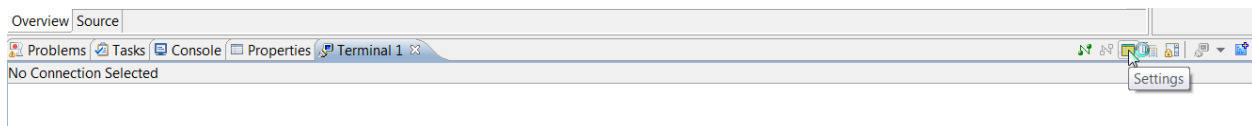

Figure 140: SDK Terminal Tab and Settings Button
2. Select the Terminal 1 tab in SDK and click the **Settings** button (Figure 140).